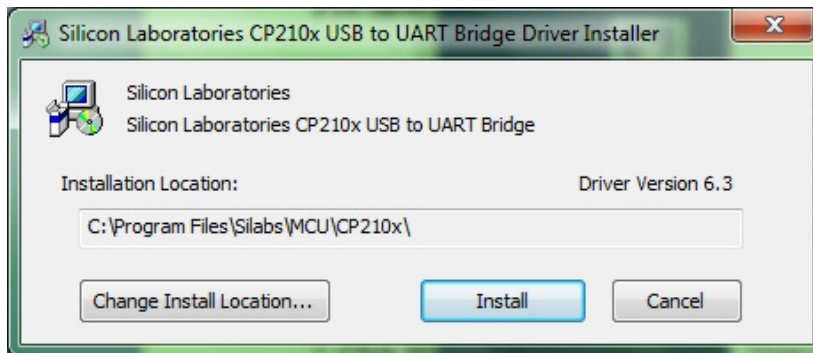

Figure 4 – USB Common Driver Installed
7. Click **Install**. Once the installation is complete, the **Installation Successful** message displays (see **Figure 4**).